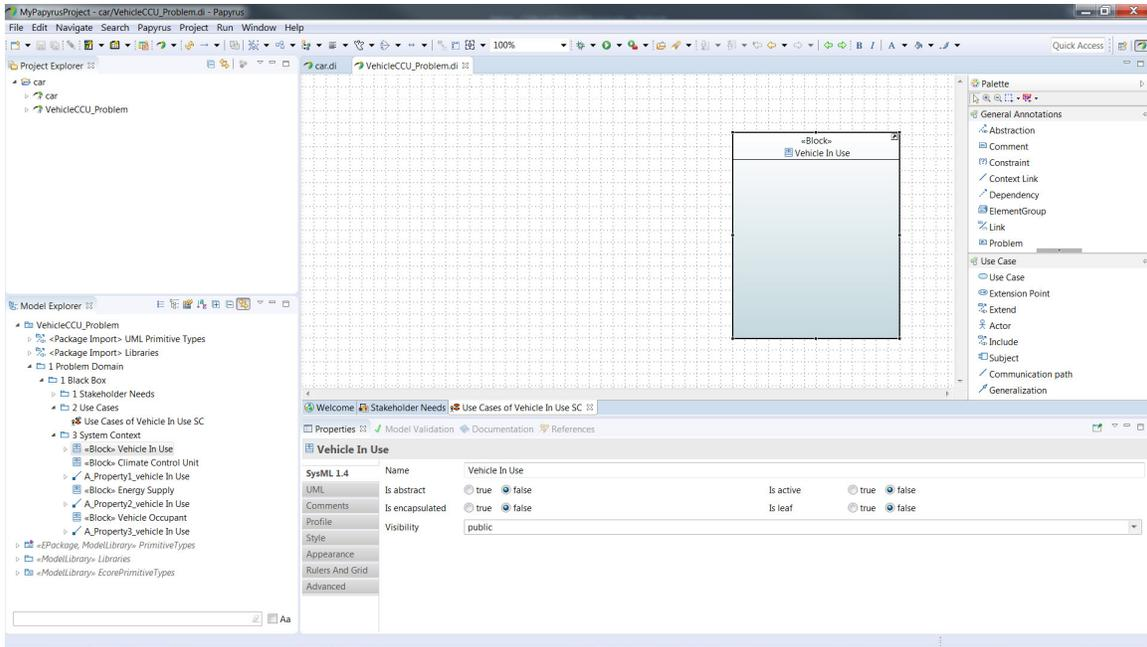

Figure 29: Vehicle In Use block in Use Case Diagram
- Click and Drag the *Vehicle In Use* block onto the *Use Cases of Vehicle In Use* use case diagram in the main window. A copy of the block should appear in the use case diagram (figure 29).